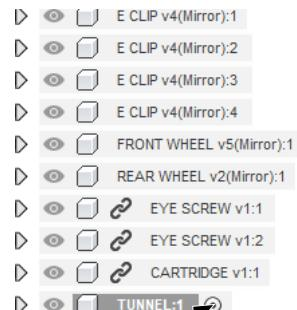

Fig. 2
Step 4. Rename New Component **Tunnel** , Fig. 2.